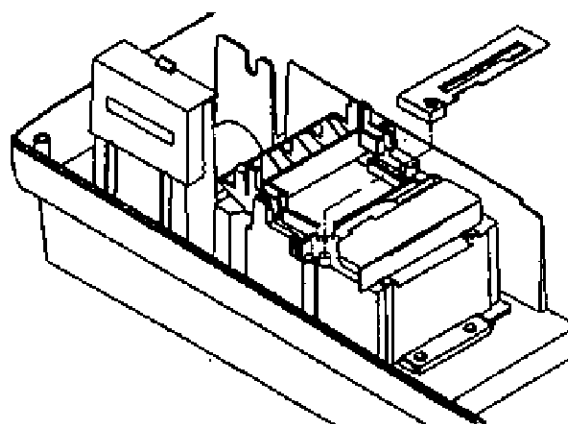

Fig.1
4. Hold the new ink ribbon cassette and place it along with paper guide. (See Fig.1.)